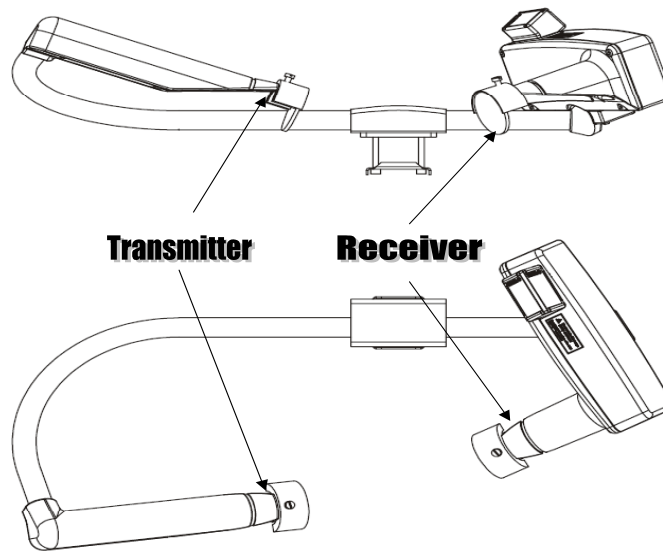

Figure 1-4 - Assembling the Opaque Glass Plates
- h. Install the calibrator plates to the lens hoods making sure transmitter plate mounts to transmitter lens and receiver plate mounts on receiver lens. Refer to Figure 1-4 below.